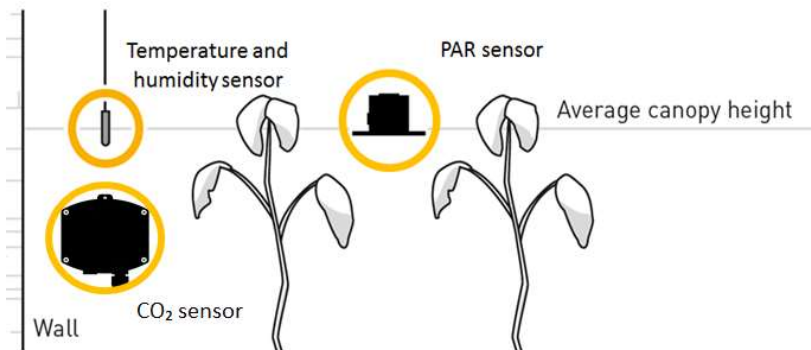

Figure 6
4.1.3. Find a suitable place for the sensor and the controller (As shown in Figure 6) . Hang the PAR sensor, CO₂ sensor, temperature and humidity sensor between the plants on average canopy height and preferably not against the wall. Do not position it in direct airflow.